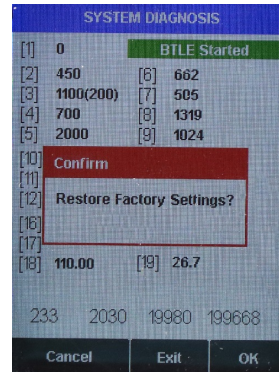

Figure 15.
5. Press **Factory Reset** (**<**). The display updates as shown in Figure 15 appear and the user can choose one of three options: